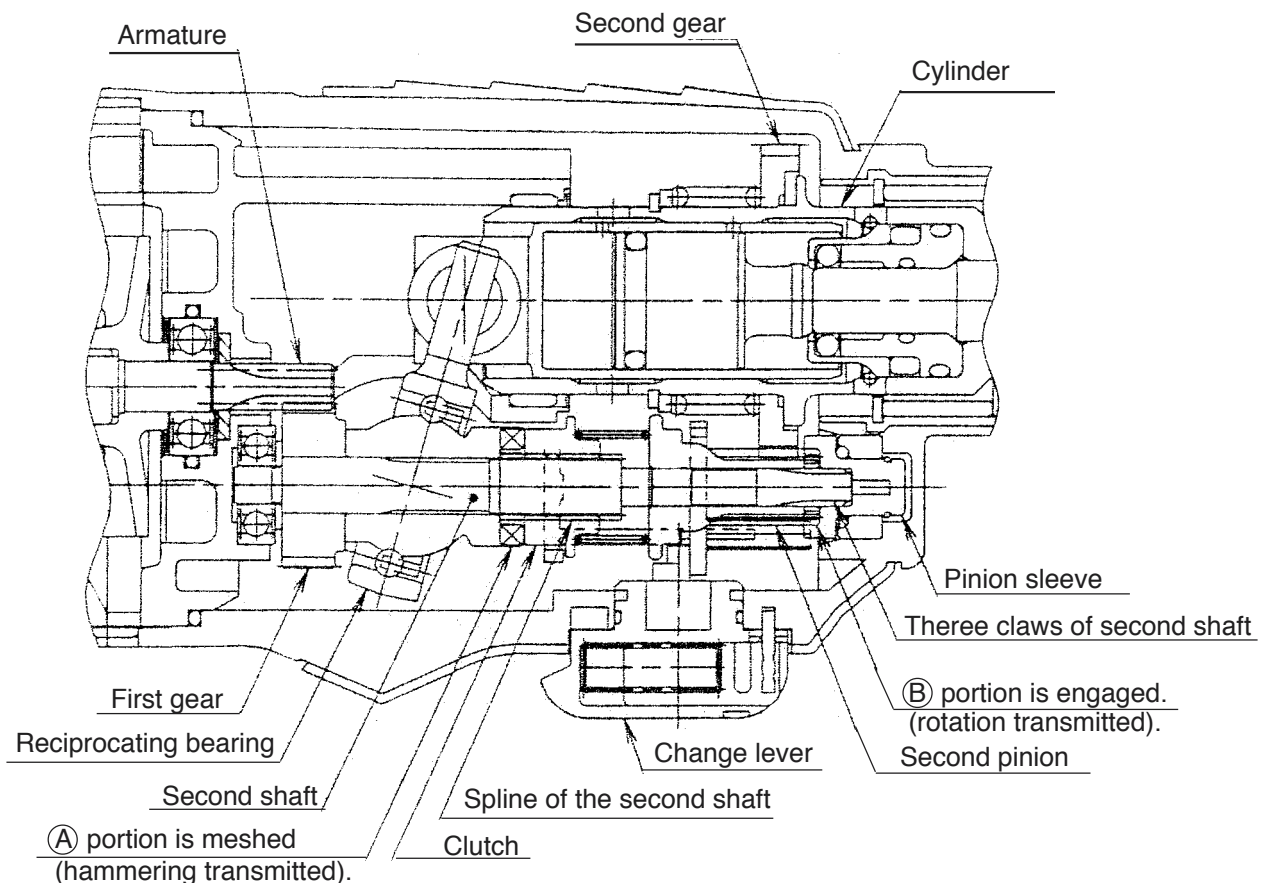

Fig. 6
#### (1) Rotation and hammering (Fig. 6)